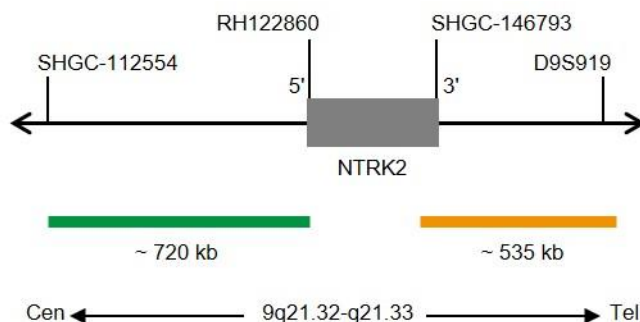

Fig. 1: SPEC NTRK2 Probe map (not to scale)
- ZyGreen (excitation 503 nm/emission 528 nm) labeled polynucleotides (~10 ng/ μ l), which target sequences mapping in 9q21.32-q21.33* (chr9:86,569,621-87,287,312) proximal to the NTRK2 breakpoint region (see Fig. 1).
- ZyOrange (excitation 547 nm/emission 572 nm) labeled polynucleotides (~4.5 ng/ μ l), which target sequences mapping in 9q21.33* (chr9:87,589,037-88,124,082) distal to the NTRK2 breakpoint region (see Fig. 1).